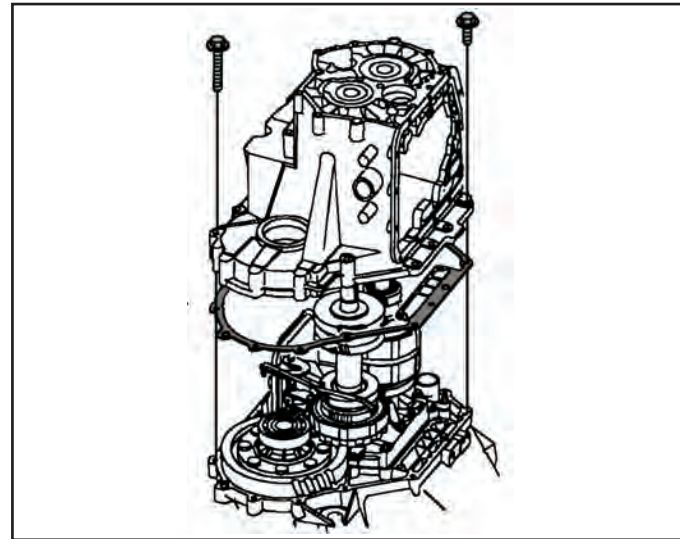

Figure 194
13. Clean case and housing surfaces and apply sealant Loctite® 515 or equivalent. Apply to both sides of the gasket or case halves using a small roller (See Figure 194).
14. Lower the case over the shafts and work down onto the differential bearing. It may be necessary to turn the reverse idler gear to index the gears allowing the case to drop down into place (See Figure 194).